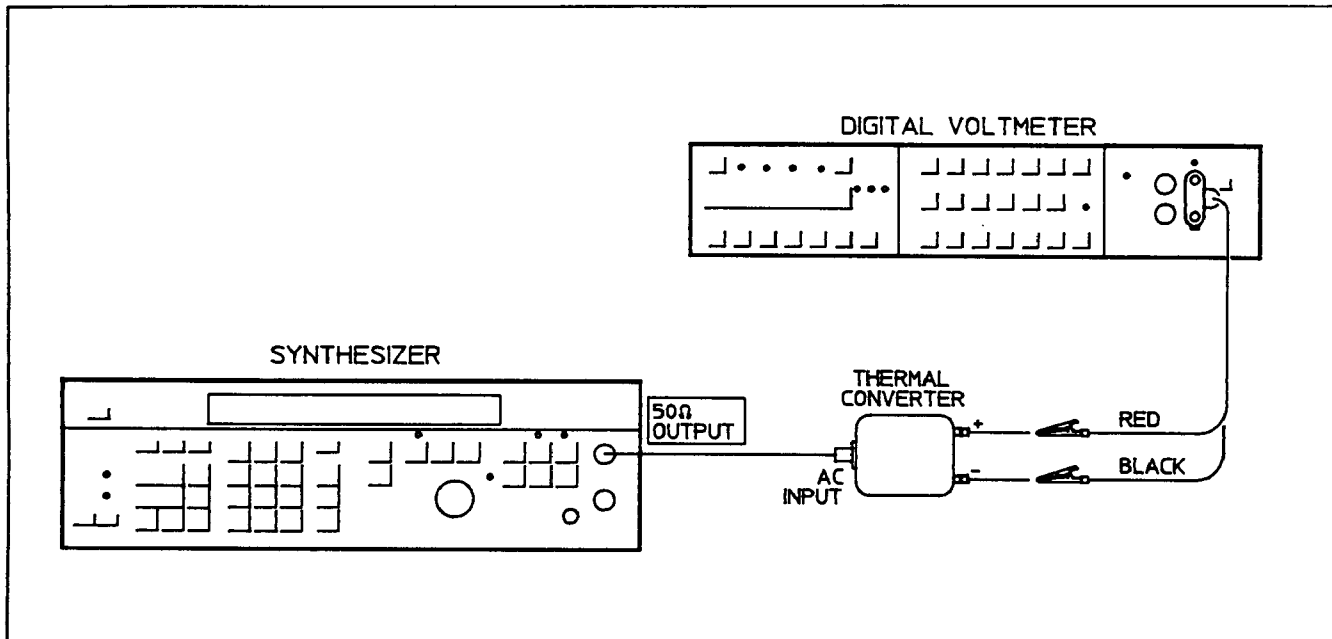

Figure 4-7.
- d. Remove the 50Ω termination and cable from the DVM. Connect the 50Ω thermal converter output to the DVM. Then connect the 3335A through the cable(1) to the thermal converter input. This sequence protects the thermal converter from damage. Set the voltmeter to the dc mode. (See Figure 4.7.)
(1) Be sure to use the same cable as used in step a.